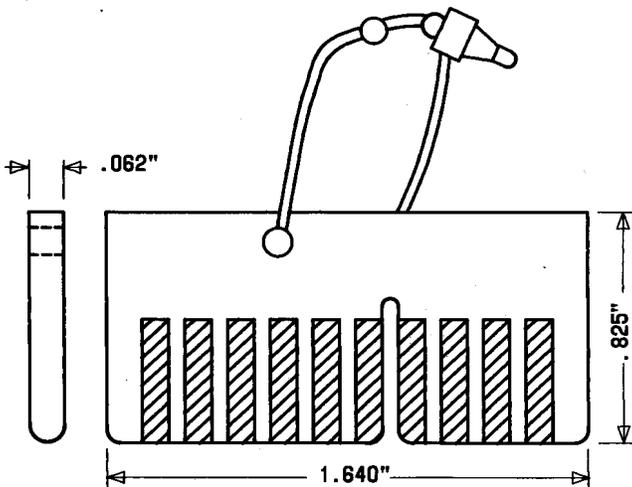

Fig. 21—473B Plug
**2.21 473B:** The 473B plug (Fig. 21) inserts into a 950A connector to provide through circuits for connectors that were manufactured without providing such through circuits. The 473B plug is used in the J98622AN Maintenance Connecting Unit.